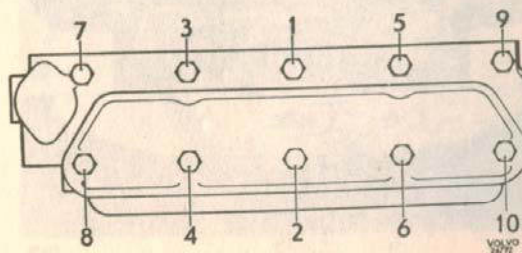
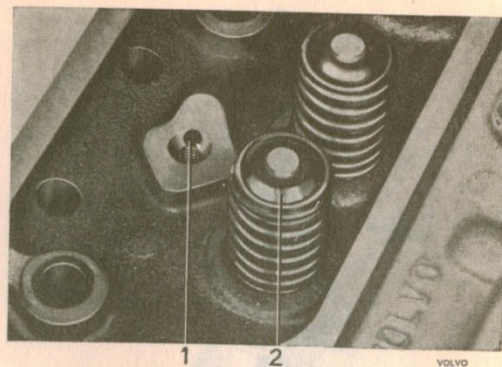
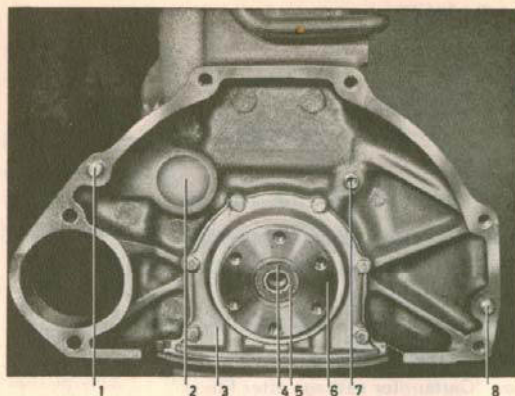

Fig. 1-92. The correct order to tighten the cylinder head bolts
Fig. 1-95. Cylinder head
Fig. 1-96. Rear end of engine
The cylinder head bolts must be tightened in a special order as shown in Fig. 1-92 in order to avoid unnecessary stresses. Check that the oil hole (1, Fig. 1-95) for the lubrication of the rocker arms is not blocked. The support bearing (5, Fig. 1-96) should be lubricated before fitting with heat-resistant bearing grease. The bearing is maintained in position by a lock ring (4).